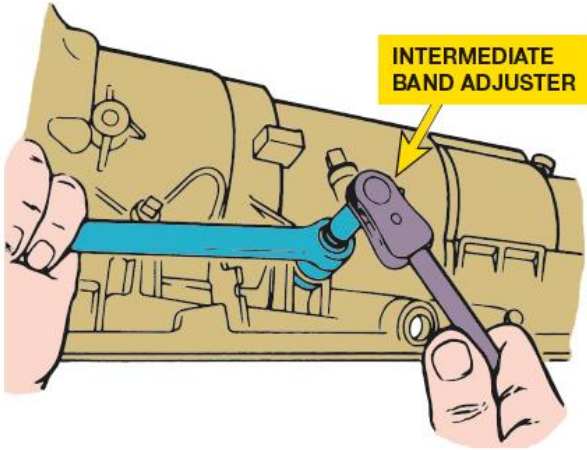

Figure 34. Band adjustment.
STEP 2 Tighten the adjuster screw to the specified torque. Figure 34.